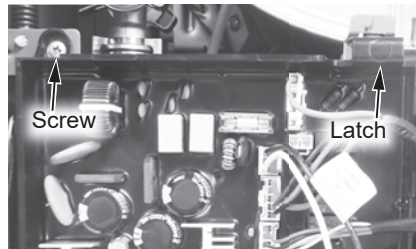

Figure 42 - Control board location
- 2 Locate the two (2) screws at the bottom of the cabinet cover. Use a Phillips screwdriver to remove the screws. Place screws aside in a safe place for reinstallation.
- 4 Locate the screw securing the control board panel as shown in Figure 42. Use a Phillips screwdriver to remove the screw and place it aside in a safe place for reinstallation.